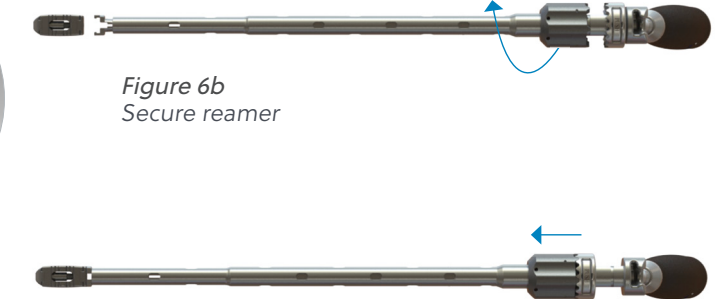

Figure 6b
- To secure the implant to the installer, insert the pins of the installer onto the implant. While holding the implant in place, turn the black outer sleeve clockwise over the inner sleeve to secure the implant (**Figure 6b**).